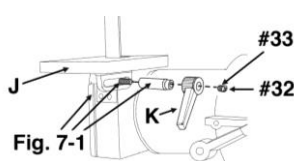

Fig. 7
7. Slide the lever (K) onto the splined shaft until it stops (Fig. 7).
8. Insert the screw (#32) with a spring (#33) into the lever and tighten until the screw head extends above the lever (Fig. 7).